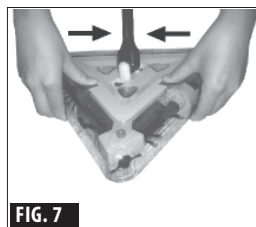

FIG. 7
- Unlock the "Tinted Outer Body Frame" by sliding the two "Outer Body Frame Lock Clips" inward towards the pole (see FIG.7).